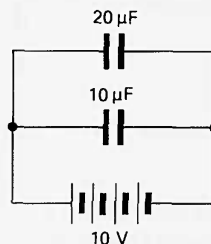

Figure B83
- c In figure B83 what is the potential difference across the  $20\ \mu\text{F}$  capacitor when it is fully charged?
- e What is the total charge stored in the arrangement in figure B83?
**35(L) Capacitors in series**